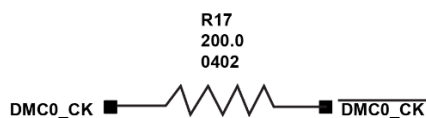

Figure 2. DMC clock differential termination
- The DMC\_CK and /DMC\_CK signals must be terminated using a differential termination scheme as shown in Figure 2.